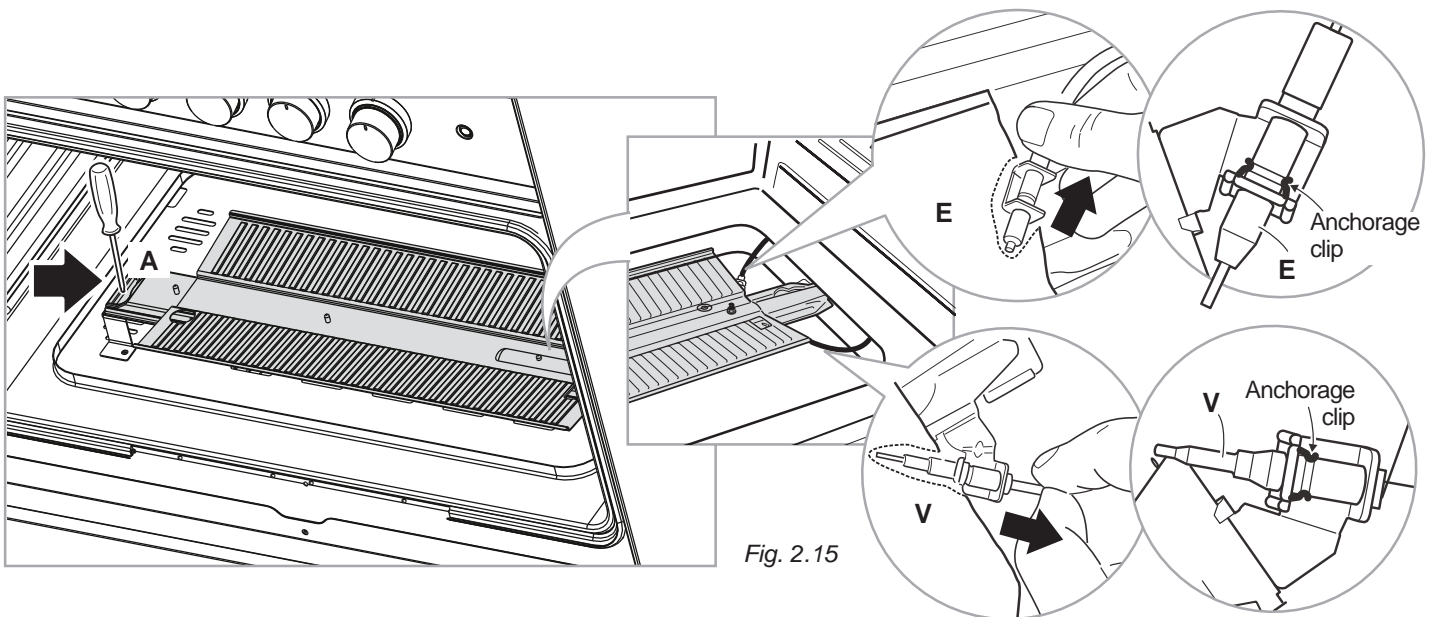

Fig. 2.15
- Gently unlock, from the burner, the safety valve probe "V" and the ignition electrode "E" (as indicated in fig. 2.15). Take care not to damage the probe and the ignition electrode.
- Unscrew and remove the burner securing screws "A" (fig. 2.15).
IMPORTANT: Pay special attention to replace correctly the safety valve probe "V" and the ignition electrode "E" as per figure 2.15. Check the correct operation of the safety valve and the ignition electrode.